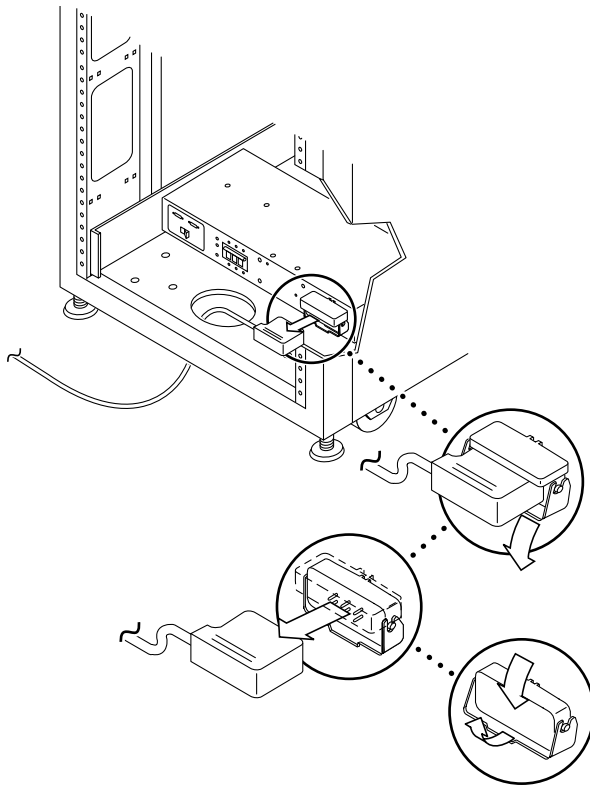

FIGURE 4-8 Disconnecting the AC Power Cable
2. **Disconnect the AC power cable from the power connector on the power sequencer (FIGURE 4-8).**
1. **Pull back the power connector cover (FIGURE 4-8).**